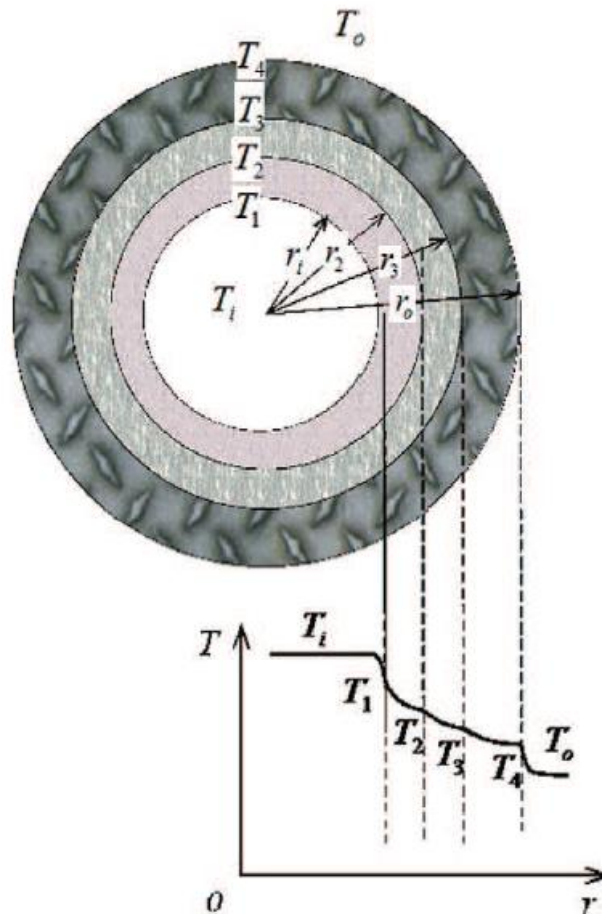

Figure 14-4 Cross Section of Insulated Pipe and Temperature Distribution
- Figure 14-4 shows the temperature distribution of a cross section for a composite subsea pipeline with two insulation layers.